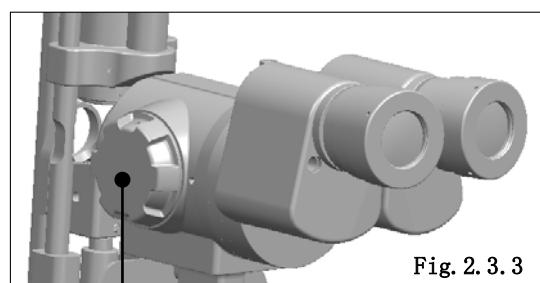

Fig. 2.3.3
20. Check whether all the moveable parts such as aperture and slit height control knob (Fig.2.3.2) filter selection lever, joy stick (Fig.2.3.4) and magnification changer lever (Fig.2.3.3) etc. could be operated freely.